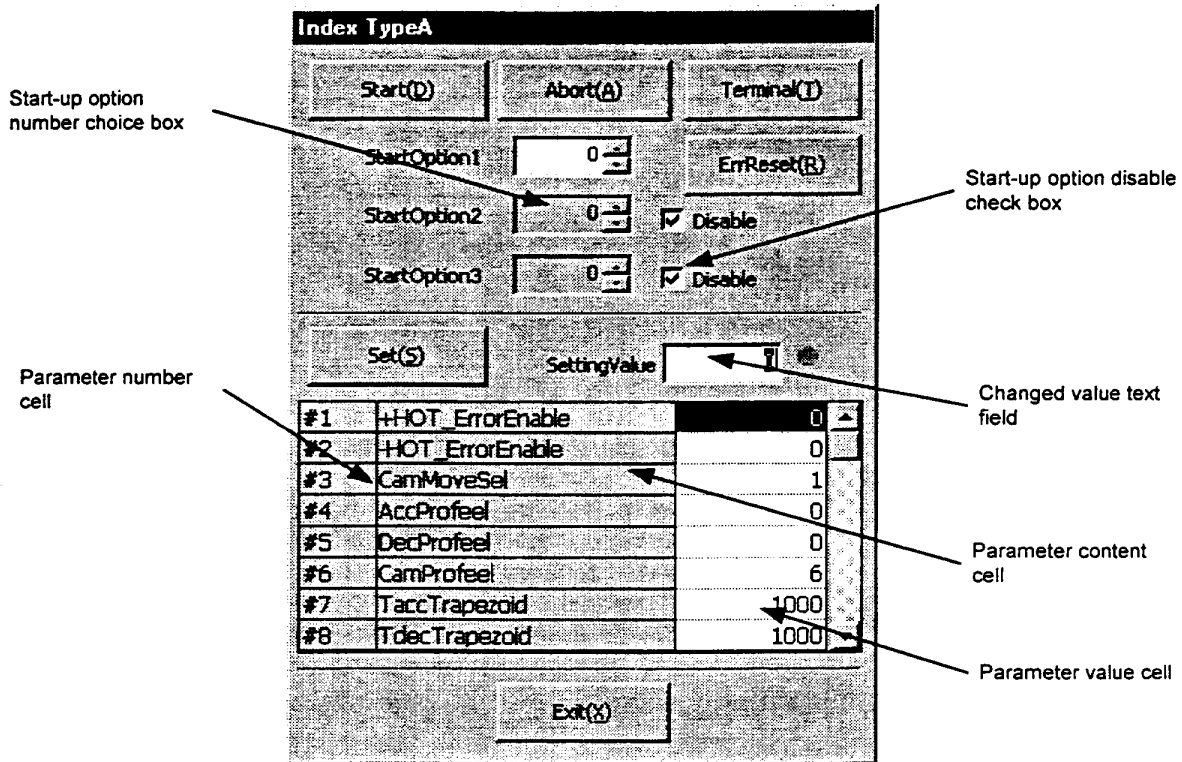

Figure 7.23 "Index Type A" dialog box
Click "Index Type A (A)" in the "DriveMenu" dialog box to display the "Index Type A" dialog box (see Figure 7.23). If the connection with the driver is established, the current values of the related parameters are read and can be edited.